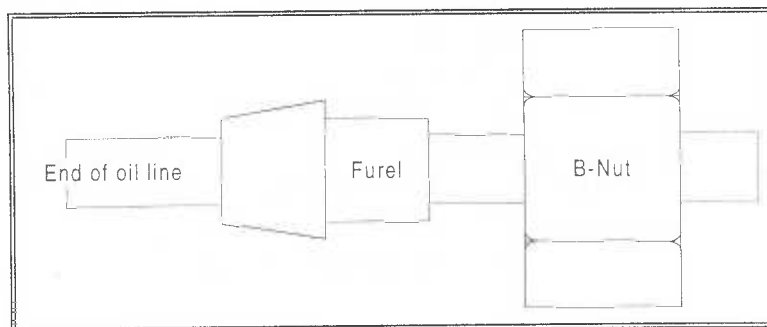

Figure 2 Installation of ferrule and B-nut on oil line
33. Remove the left hand cam tower oil line. Install the new cam tower oil line supplied with the kit. Make sure the ferrule and B-nut on the right end of the line are installed correctly (Figure 2). Don't tighten the ends of the oil line until after the oil tube is connected to the tensioner and cam line. This will allow a little movement so all of the parts will line up better.